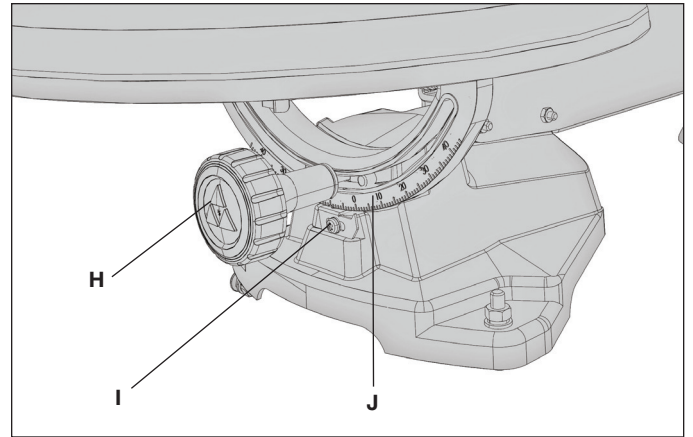

FIG. 10
the bevel lock knob (H) Fig. 10, and bevel the table to the desired setting on the bevel scale (J), indicated by the bevel pointer (I).